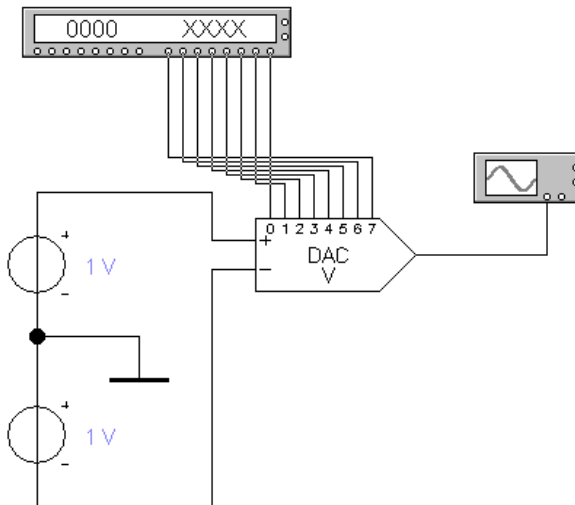

Figure 12.3 – DAC based on the EWB library
7. Collect the schema shown in fig. 12.3.